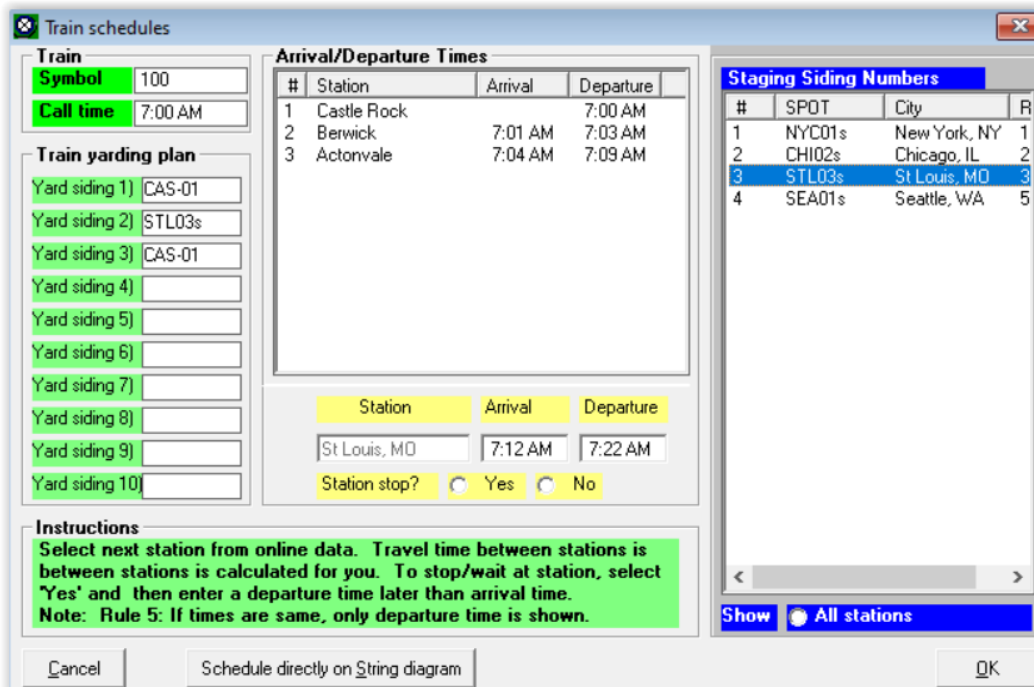

Figure 13-20a
- d. At the next stop, West Staging, the train will wait until 5:30 pm before departing. This is still a normal stop, so let's enter it. First we need to select the correct location. Remember when we set up the train it went to St. Louis so we need to use that location not the model location of West Staging. In the right hand panel click on the "Show Staging" radio button, then double click on STL03s. As Figure 13-20a shows we will need to edit both the arrival and departure times.